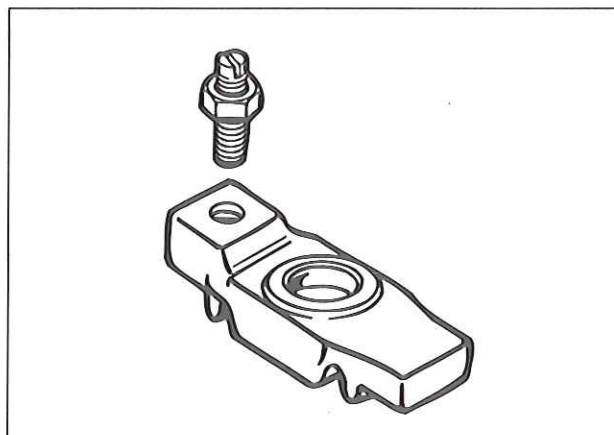

FIG. 47
3. Loosen the leveling screw locknut and remove the leveling screw from the bridge (Fig. 47).